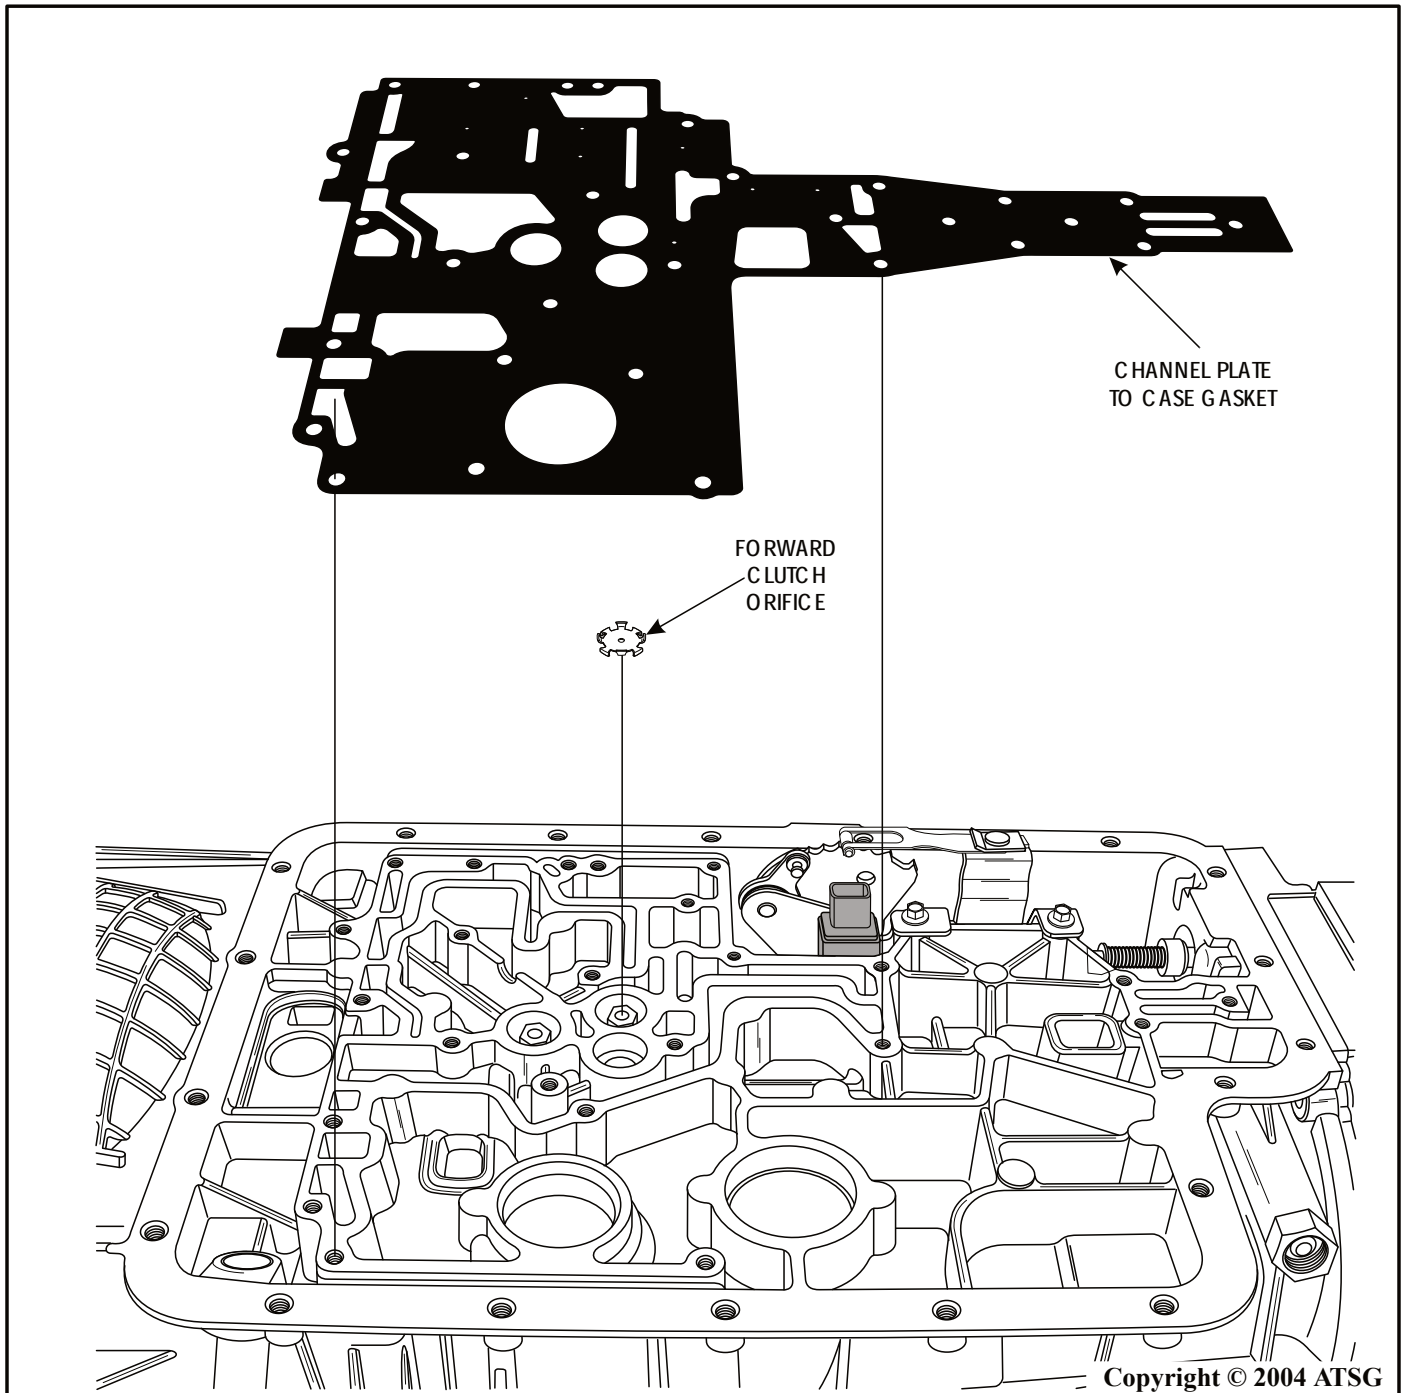

Figure 35
17. Remove and discard the channel plate to case gasket, as shown in Figure 35.
18. Remove the forward clutch orifice from the case cavity, as shown in Figure 35.